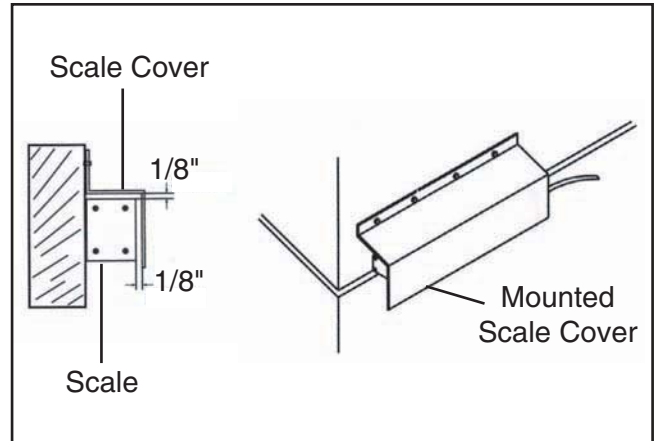

Figure 6. Scale cover clearance.
4. A clearance of at least $1/8$ " between the scale and scale cover is necessary (**Figure 6**).